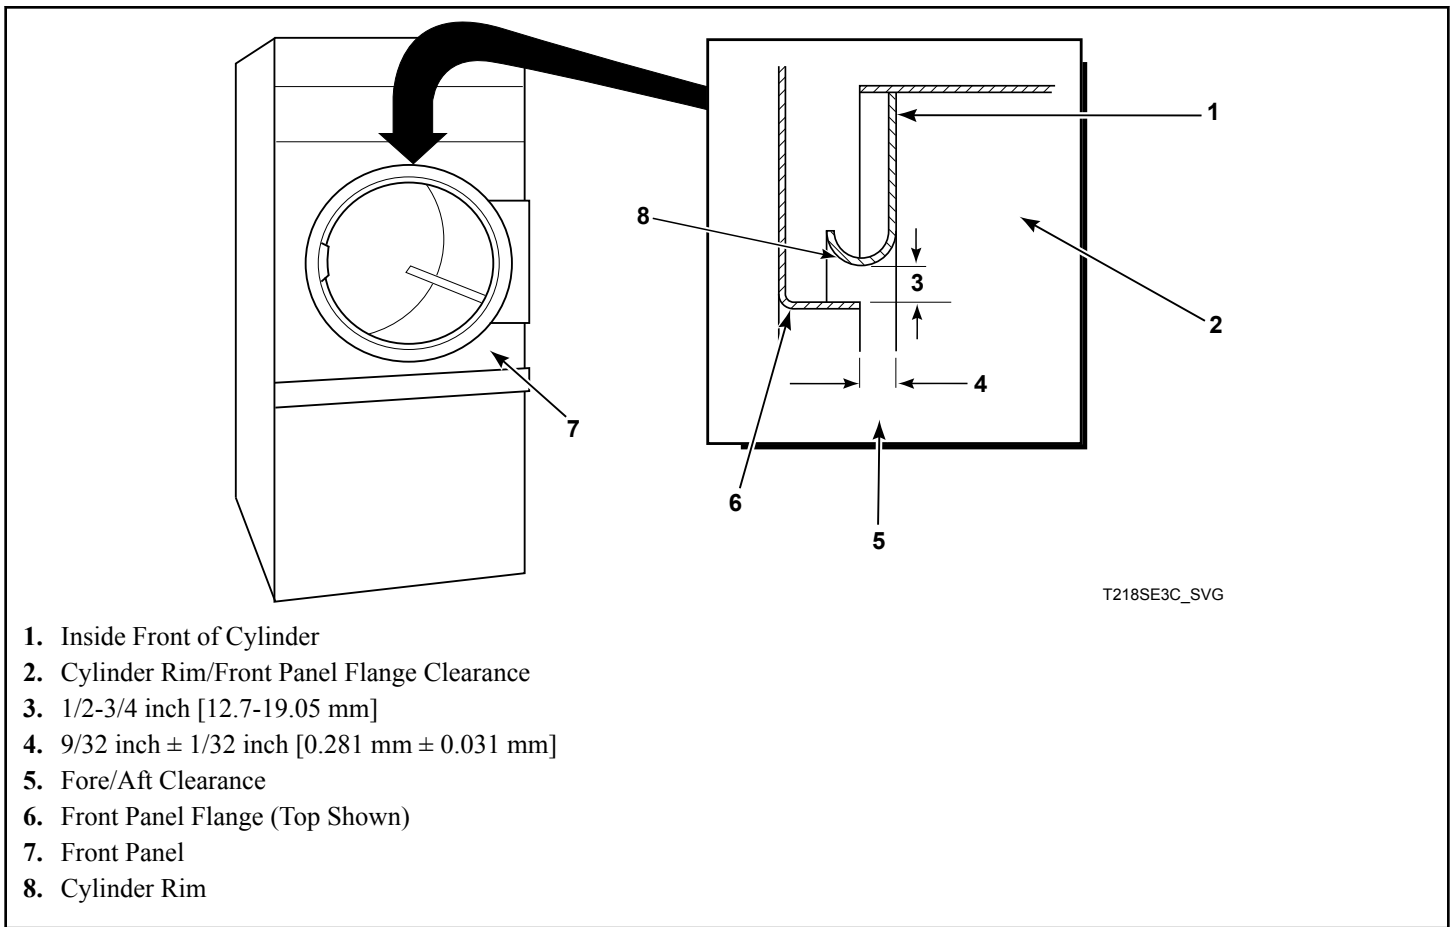

Figure 14
1. Open loading door and check the gap between the center of the front panel top flange and the cylinder rim. Proper adjustment is when the gap is 1/2 - 3/4 inch [12.7 - 19.05 mm]. Refer to *Figure 14*.